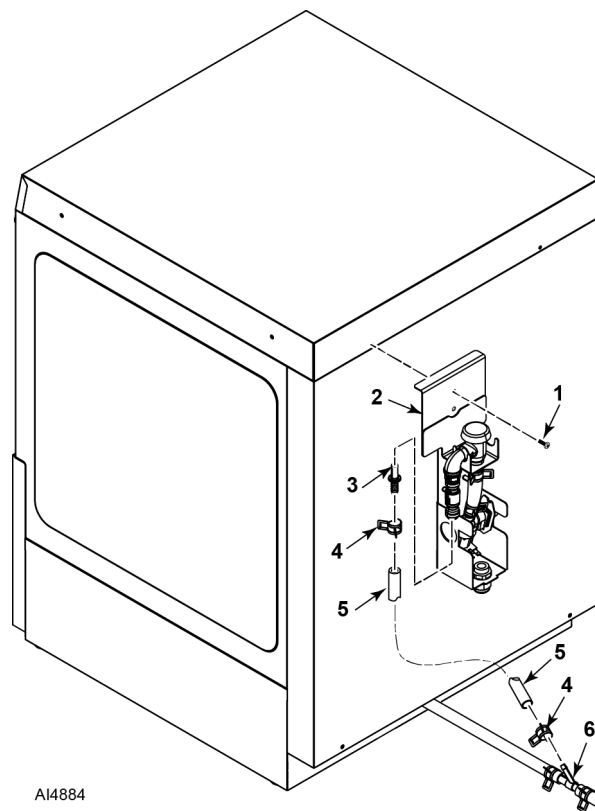

Fig. 14
A. Remove top cover screw (1, Fig. 14) from dishwasher at desired install location.
- B. Place DWT assembly (2, Fig. 14) on dishwasher and secure in place with top cover screw (1).
- C. Slide a hose clamp (4, Fig. 14) onto DWT discharge hose (5).
- D. Insert barbed pipe adapter (3, Fig. 14) into DWT discharge hose (5) and secure with hose clamp (4).
- E. Connect barbed pipe adapter (3, Fig. 14) to DWT assembly (2). Check valve quick connect fitting.
- F. Slide a hose clamp (4, Fig. 14) onto DWT discharge hose (5).
- G. Slide DWT discharge hose (5, Fig. 14) onto Tee-adaptor fitting (6) and secure with hose clamp (4).